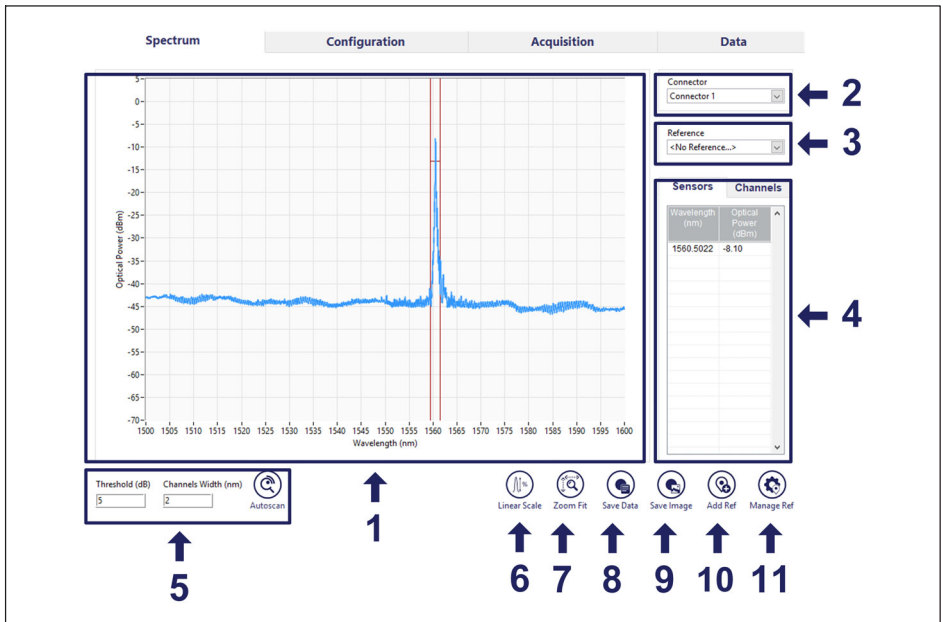

Fig. 7.5 Spectrum tab
- 3 Reference selection. A previously saved spectrum image can be plotted on the graph (number 1 in Fig. 7.5) by selection from the dropdown list. References can be saved by pressing the *Add Ref* button (number 10 in Fig. 7.5)
The vertical scale can be changed from logarithmic (default) to linear by pressing the **Scale** button (number 6 in Fig. 7.5).